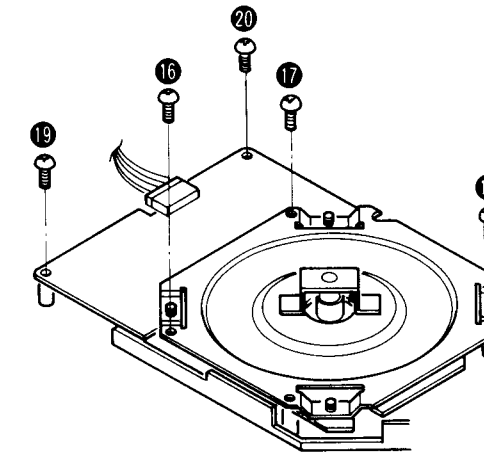

Fig. 8
2. Remove the 3 stator frame setscrews (Fig. 8: ⑮ ~ ⑰) and the 2 drive circuit board setscrews (Fig. 8: ⑱, ⑳).